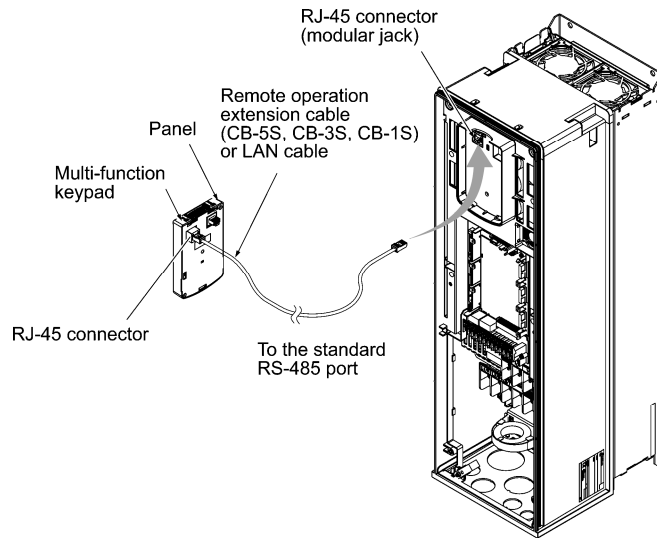

Figure 5.10 Connecting the Keypad to the Inverter with Remote Operation Extension Cable or an Off-the-shelf LAN Cable
- (4) Using a remote operation extension cable or a LAN cable, interconnect the keypad and the inverter (insert one end of the cable into the RS-485 port with RJ-45 connector on the keypad and the other end into that on the inverter) (See Figure 5.10).